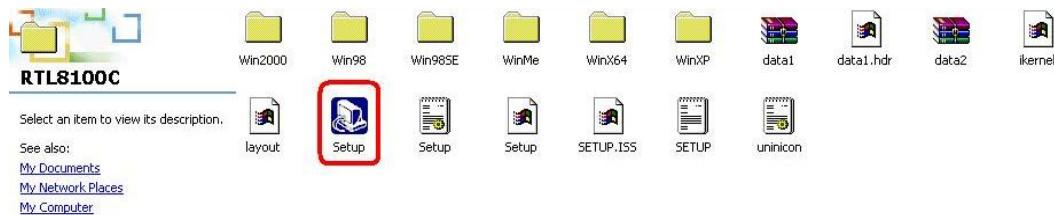

Figure 7-20: Locate the Setup Program Icon
Step 3: Locate the **Setup** program icon (**Figure 7-20**).
Step 4: Double click the **Setup** program icon in **Figure 7-20**.